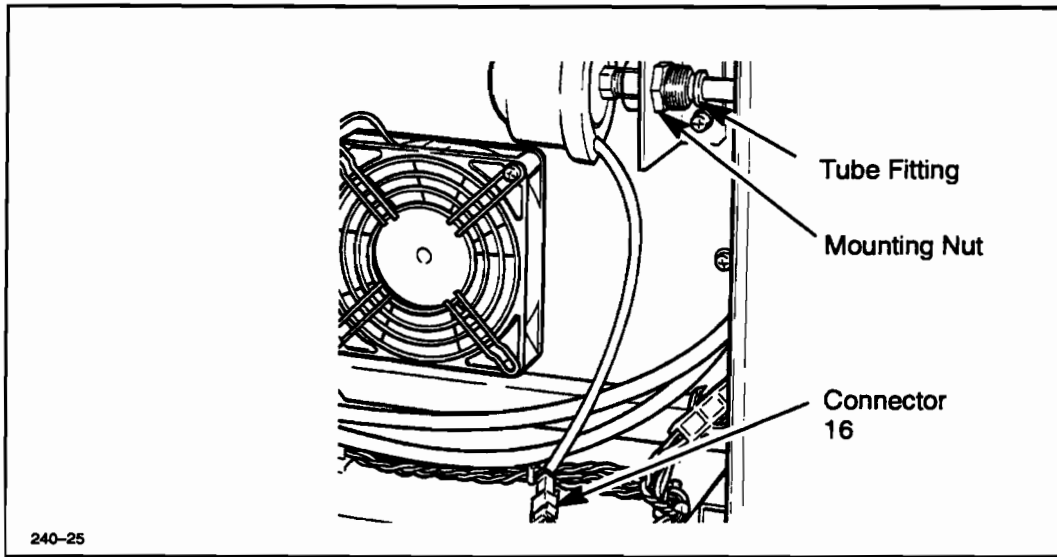

Figure 6-60. Vacuum Switch (VSW1) Removal
5. Disconnect the vacuum switch at Connector 16. See Figure 6-60.
6. Remove the toner tube from the vacuum switch tube fitting. See Figure 6-60.